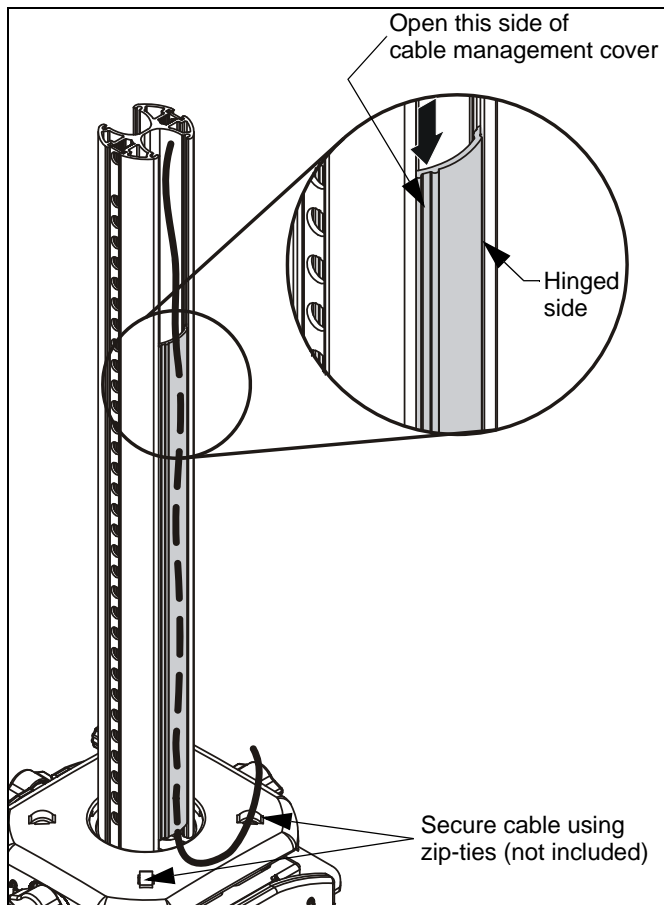

Figure 24
1. Open the cable management cover on the column by opening the side with double raised edge. (See Figure 24)
3. Cables may be secured using zip-ties (not included) through cable management points on projector mount. (See Figure 24)